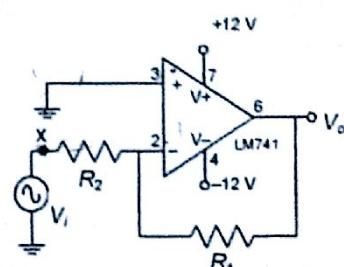

Fig. 7.1 Inverting amplifier
1. Assemble the circuit shown in Fig. 7.1 with  $R_1 = 10$  k $\Omega$  and  $R_2 = 1$  k $\Omega$ . Make sure the power supply ground is connected to the circuit ground.